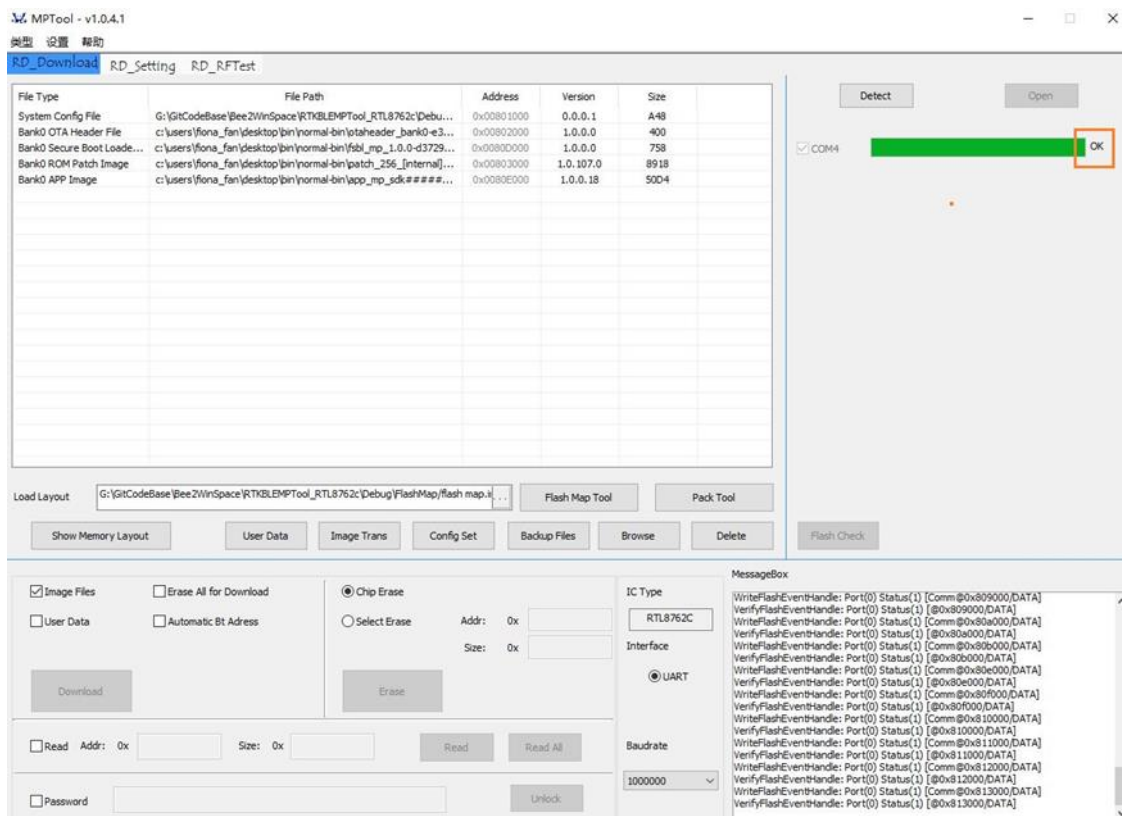

Figure 7-15 UART Download in RD mode
- 7) Click “Download” button to start downloading, as is shown in Figure 7-15.